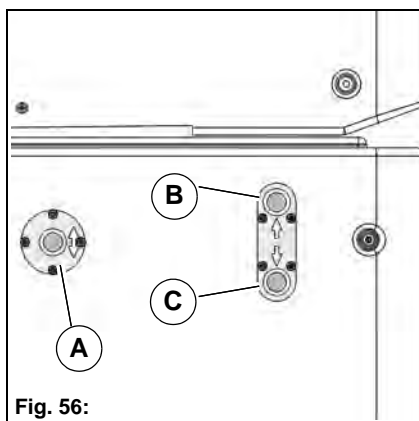

Fig. 56:
- Raise tipper body: Press the button **Fig. 56-A** and the button **Fig. 56-B** simultaneously
- Lower tipper body: Press the button **Fig. 56-A** and the button **Fig. 56-C** simultaneously